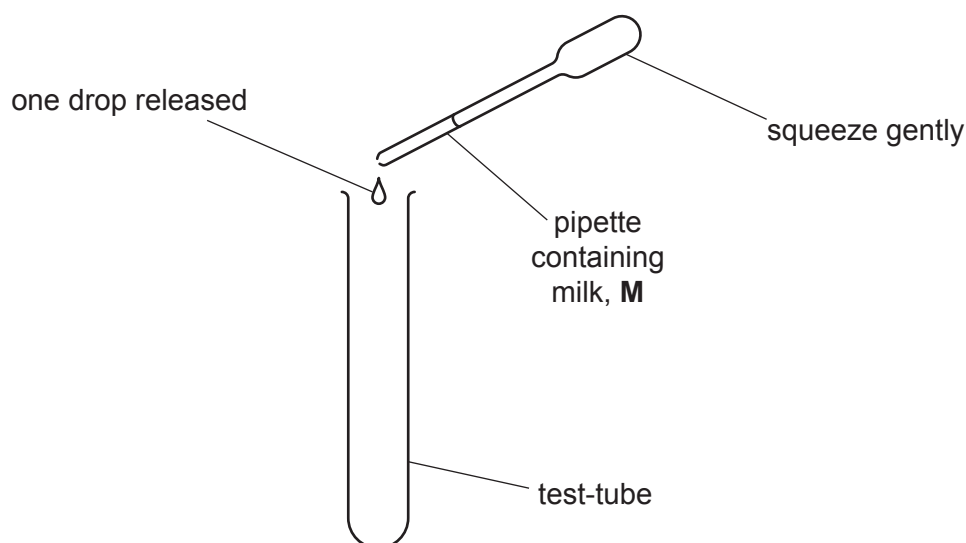

Fig. 1.1
step 2 Hold the pipette containing **M** over an empty test-tube, as shown in Fig. 1.1. Squeeze the pipette gently to release **one** drop. It is important that the drop does **not** contain air bubbles.